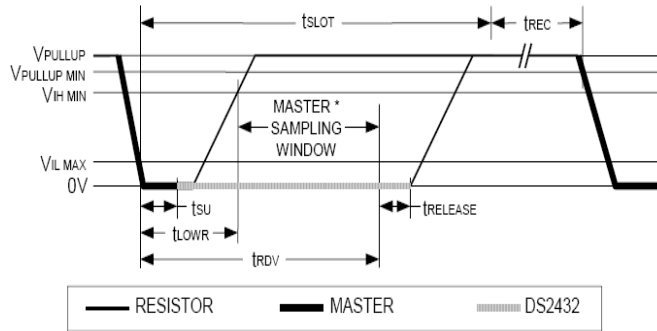

Fig4-98 - Read-data Time Slot
- (1) To initialize Write Data, Master will convert the Data Line from the high logic to the low.
- (2) There are two types of Write time slot: Write 1 time slot and Write 0 time slot.
- (3) During a write cycle, all Write time slots must have duration of at least 60µs and a recovery period of 1µs.
- (4) When the I/O line goes down, Slave devices create samples from 15-60 µs.
- A. Write 0: If the sampling is low, 0 is generated as in Fig4-98: